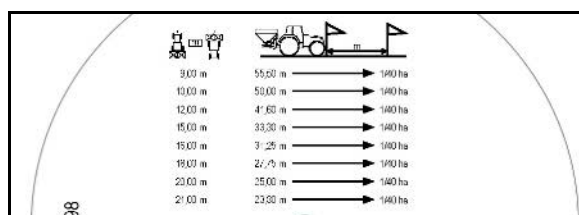
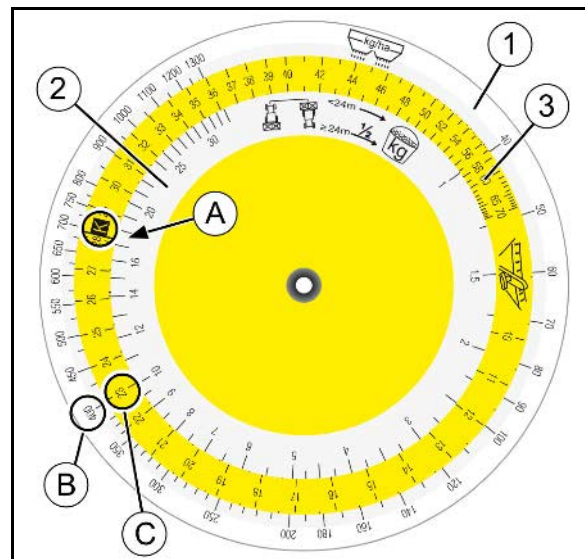

Fig. 65
Fig. 67
1. Hook the collection bucket (Fig. 67/1) with the bracket (Fig. 67/2) on to the outlet chute (Fig. 67/3). Engage the collection bucket in the clamping device (Fig. 67/4 and Fig. 65/1).
2. Open the lateral slider (Fig. 67/5) of the discharge chute fully for approx. 5 sec. with the rope (Fig. 67/6) – this ensures a uniform flow of fertiliser. Afterwards, pour back the collected fertiliser into the spreader.